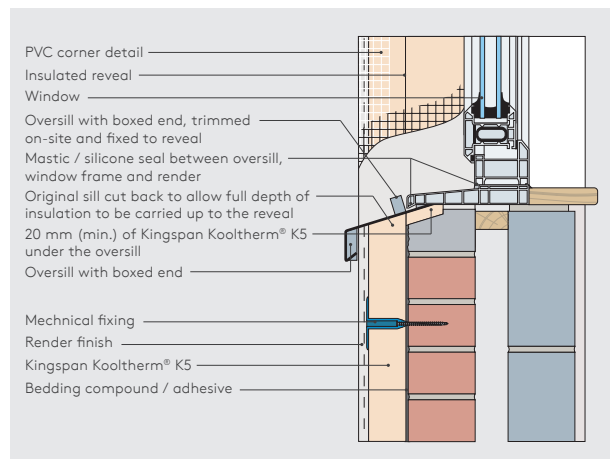

Figure 9 - Overall extension detail (refurbishment)
- In refurbishment projects, sill extenders and flashings should be used around openings, with care taken to avoid cold bridging (see Figure 9).